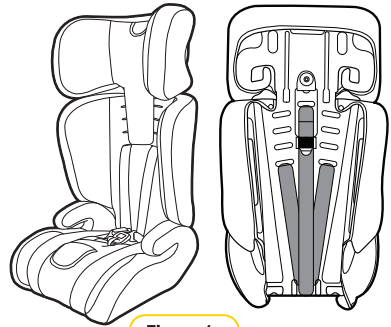

Figure 1
Step 1: From the underside of the restraint pull each crotch 3-bar slide then turn 3-bar slide and push through each slot to remove the Harness Buckle from the restraint (refer Figure 1).
- Step 4:** Feed the lap end of the harness and the three bar slide through the thigh slots (see Figure 1 & 2).